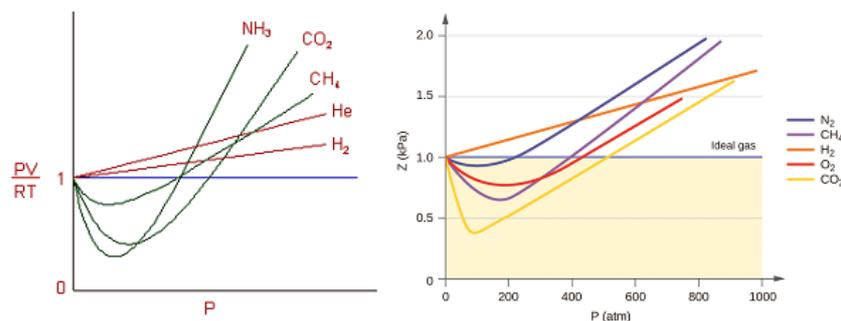

Figure 1
- What type of gas is to be compressed (media gas)? Not all boosters are suitable for oxygen applications. As well, different gases have different compressibility factors. Be aware that air pumps faster than helium. Oxygen, nitrogen, and air all pump at about the same rate, while pumping helium is the slowest and produces the most heat. These differences are attributed to the compressibility of different gases – see figure 1 - which in turn will be temperature and pressure dependent.